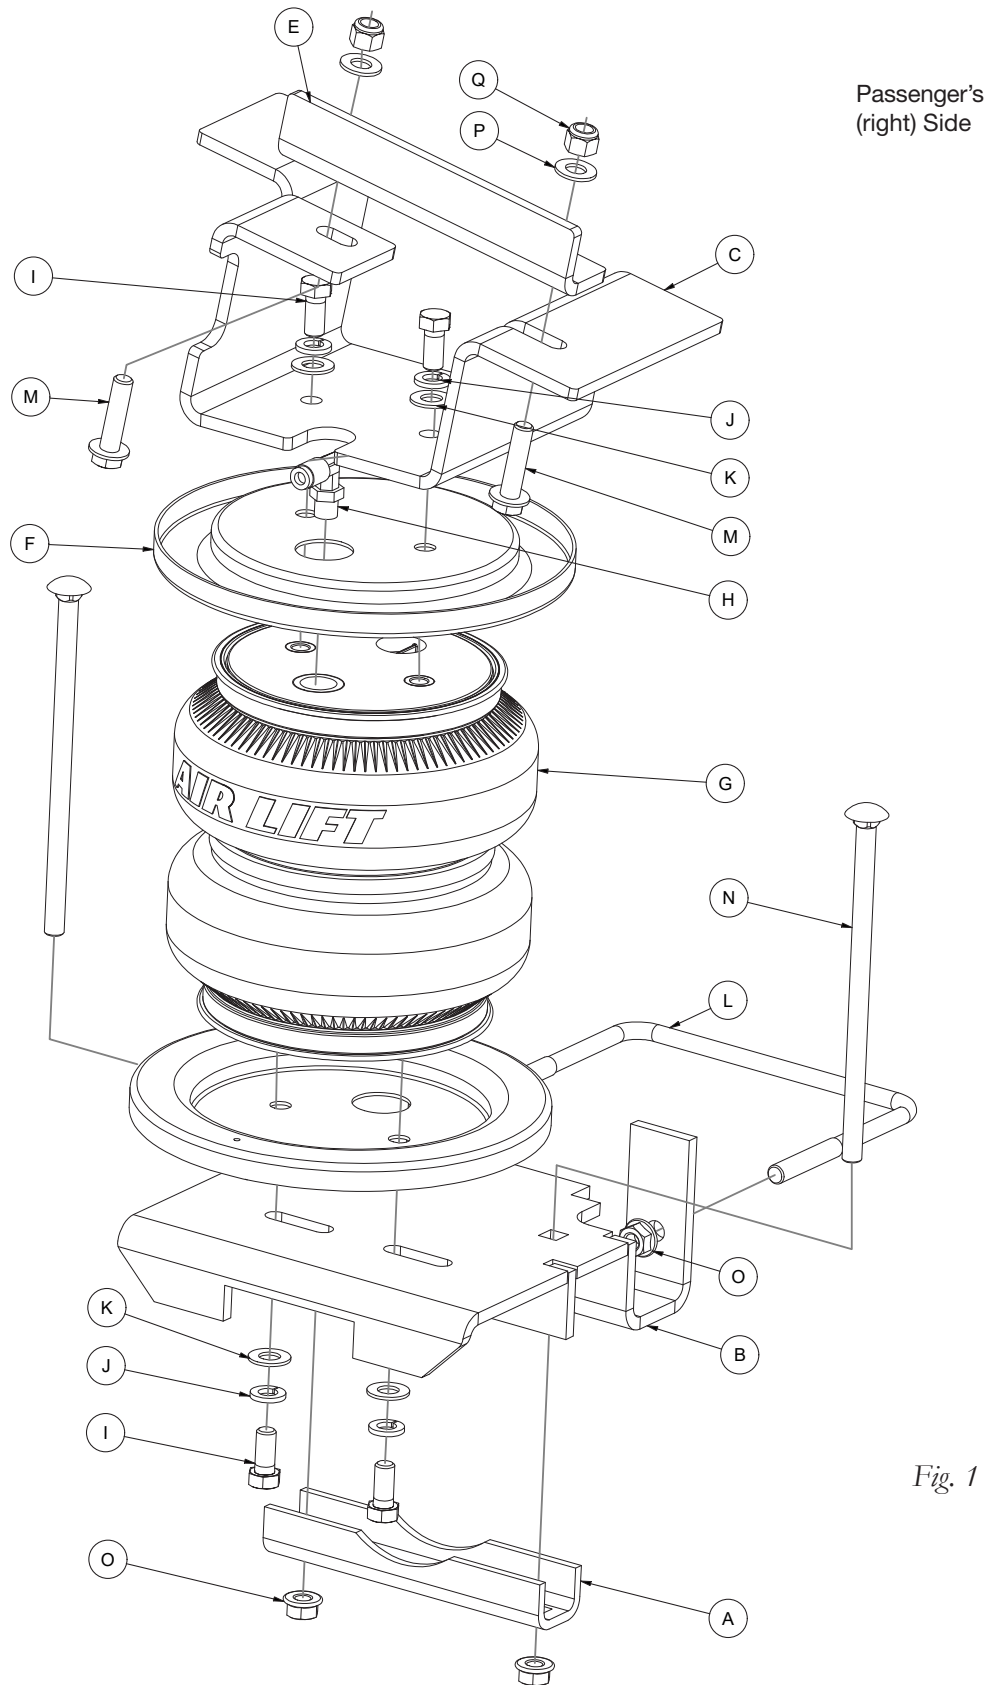

Fig. 1
* These parts are not shown in the System Overview (Fig. 1)